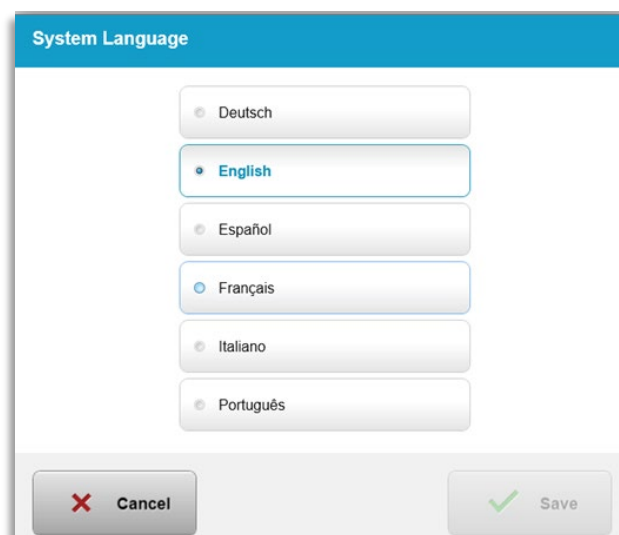

Figure 3-56. Edit System Language
- o Select the desired language from the menu as shown in Figure 3-56.